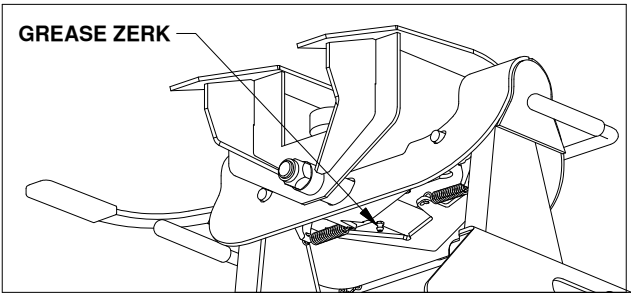

FIGURE F1: View under saddle.
- Grease the saddle through the grease zerk approximately every six months with multi-purpose grease. this allows the coupler to pivot freely, see figure F1.